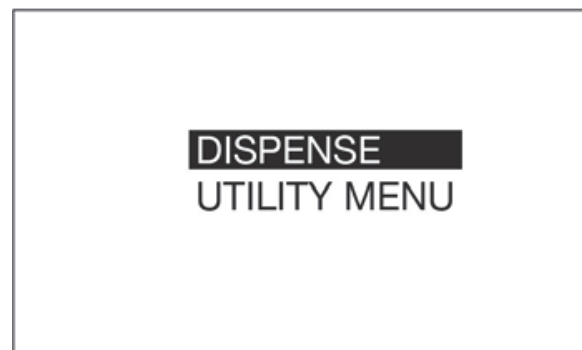

FIG. 57
3. After the meter has been successfully configured, the main menu screen shown in FIG. 57 displays.